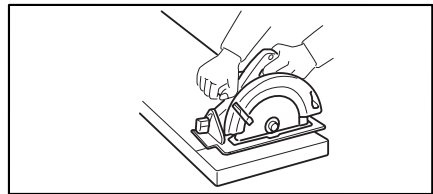

Fig. 1
16. **Place the wider portion of the saw base on that part of the workpiece which is solidly supported, not on the section that will fall off when the cut is made. As examples, Fig. 1 illustrates the RIGHT way to cut off the end of a board, and Fig. 2 the WRONG way. If the workpiece is short or small, clamp it down. DO NOT TRY TO HOLD SHORT PIECES BY HAND!**